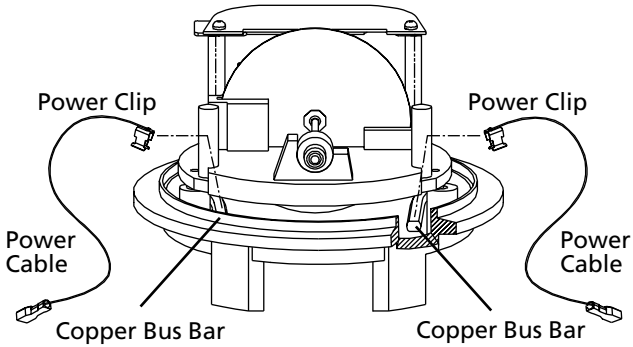

Figure 42. Attaching Power Clips to Non-AMR Ready Meter
3. If you have an AMR Ready meter, go to step 4. If your meter is not AMR Ready, attach the power clips to the copper bus bar on the inside of the meter using needle-nose pliers (see Figure 42). Then, go to step 5.